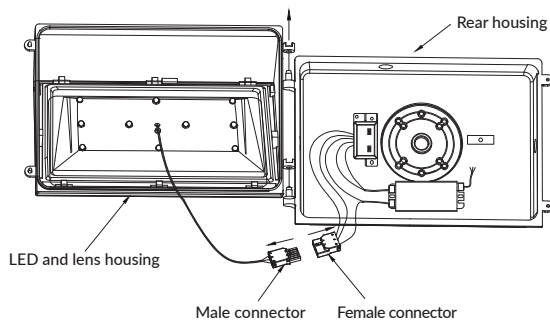

Figure 5
- Locate the point E/F/G for surface mounting they correspond to the location of the 3 cratered mounting holes at the back of the rear housing. Prepare the rear housing for mounting by drilling points E/F/G to get three hole; Unscrew the locking Bolt (2) from the side from where the conduit will come into the fixture. (Figure 5)